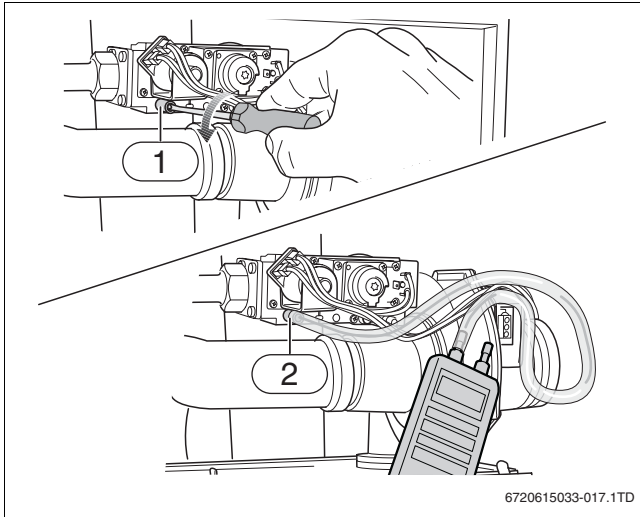

Fig. 13 Measuring the gas supply pressure
- ▶ Close the gas shut-off valve. Loosen the screw plug on the inlet gas pressure testing nipple by 2 turns (→ fig. 13, [1]).
- ▶ Connect the pressure gauge connection hose to the testing nipple (→ fig. 13, [2]).